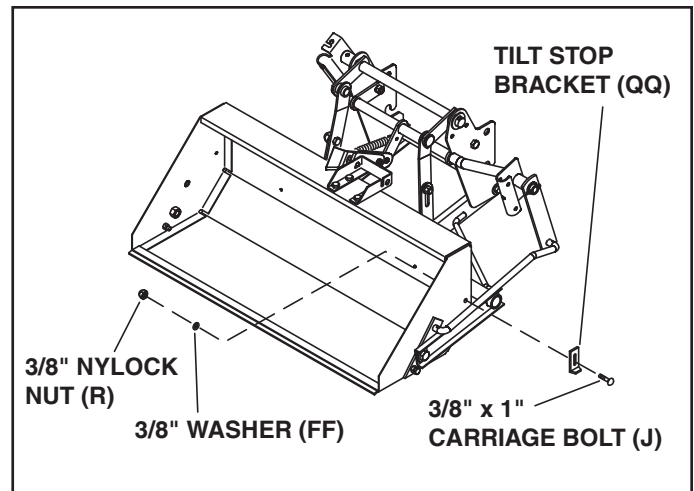

FIGURE 10
STEP 11: INSTALL TILT STOP BRACKETS (SEE FIGURE 10)
- Install a tilt stop bracket (QQ) to each side of the bucket using a 3/8" x 1" carriage bolt (J), a small 3/8" washer (FF) and 3/8" nylock nut (R). **Do not tighten** the nuts until step 28.